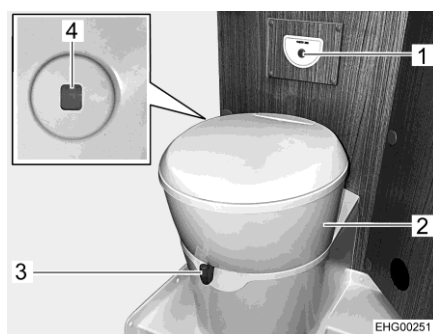

Fig. 147 Toilet
The toilet bowl can be rotated into the required position. In order to do this, grab the toilet's upper part (Fig. 147,2) with both hands and rotate it.
The operating unit with the flush button (Fig. 147,1) is installed near to the toilet bowl.
- Before flushing open the sliding trap of the toilet. To do this, push the slide lever (Fig. 147,3) in an anticlockwise direction.
- For flushing, press the blue flush button (Fig. 147,1).
The colour of the level indicator (Fig. 147,4) changes from green to red whenever the sewage tank has to be emptied.